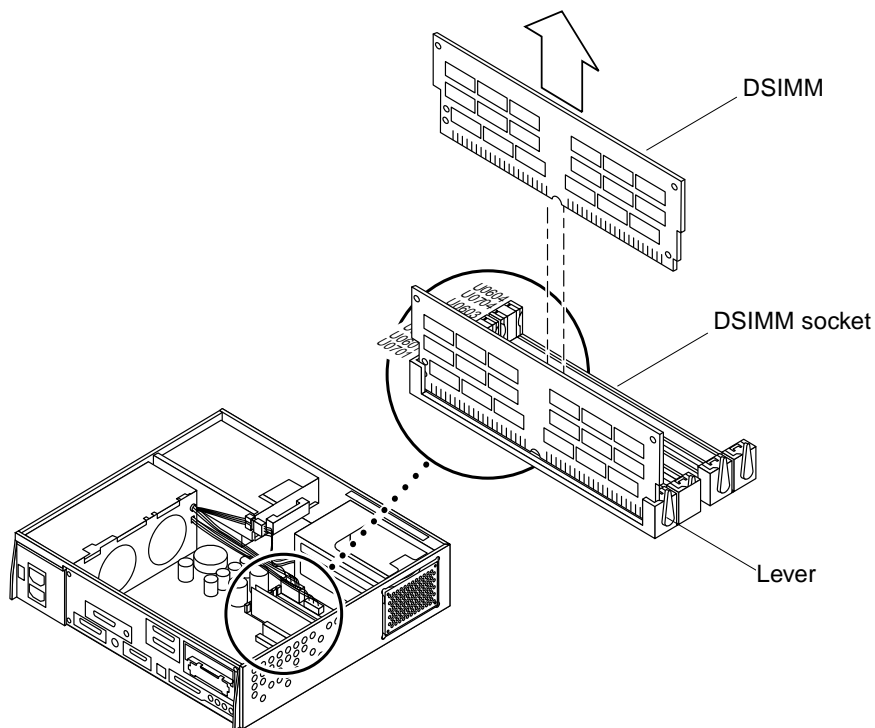

FIGURE 10-22 Removing a DSIMM
6. Remove the DSIMM from the socket (FIGURE 10-22).